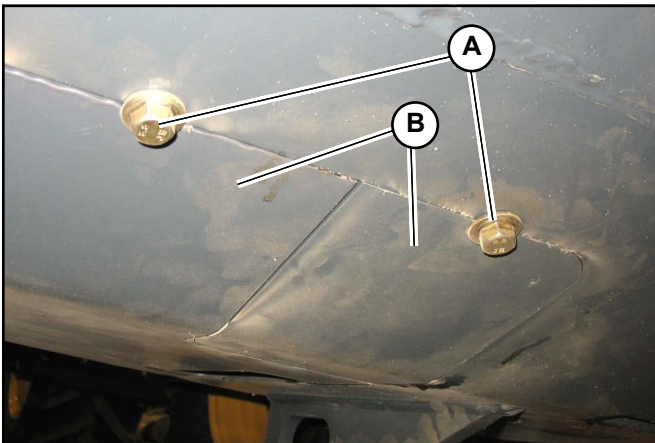

Fig. 199 – Lower Engine Access Panels
- a. Remove hardware (A, Fig. 199) securing lower engine access panels (B) and remove panels.
- d. Replace drain plug (X).
10. Replace lower engine access panels (B, Fig. 199) secure with hardware (A).